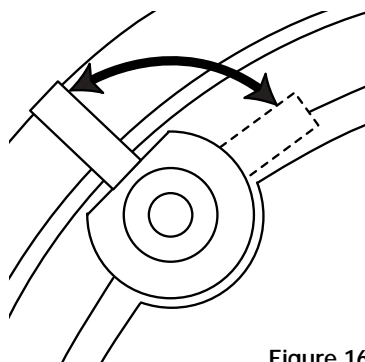

Figure 16
6. On both models, there are four clamps or mounting "dogs" which hold each speaker in place. The dogs are tightened via four front-baffle screws. To install the speaker, first rotate the dogs inward. Insert the speaker into the cutout and tighten the dogs by turning the screws clockwise. **DO NOT OVERTIGHTEN THESE SCREWS.** Over-tightening the clamps may make the grille difficult to install. (See Figure 16.)